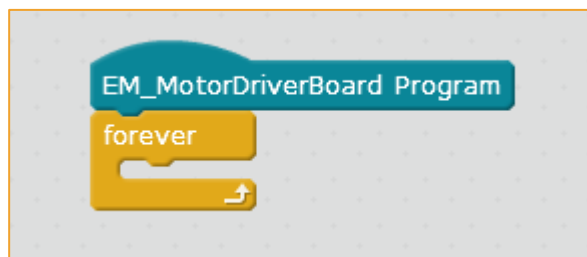

Figure 2-7
- 2) Click the “Control” tab in the tab area and drag the “Repeat” building block to the bottom of the MotorDriverBoard main program in the script area, as shown in Figure 2-7.